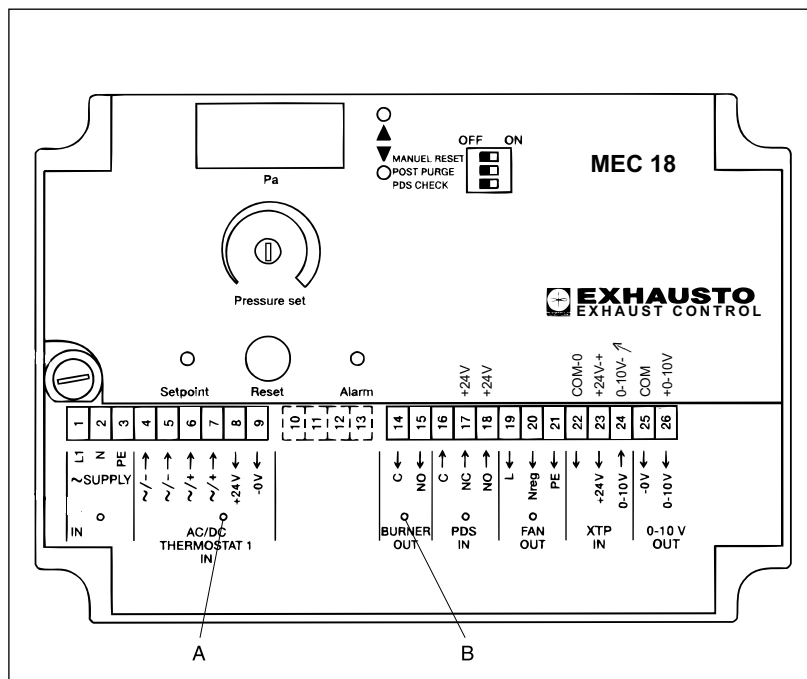

Fig. 15
2. Start the heating system and wait until the thermostat (Fig. 15-A) closes and the pressure has stabilized (none of the yellow diodes are lit).
4. If used, check that the safety system disconnects the appliance (Fig. 15-B). An error can be simulated by disconnecting the silicone tubing from the negative port on the transducer (XTP).